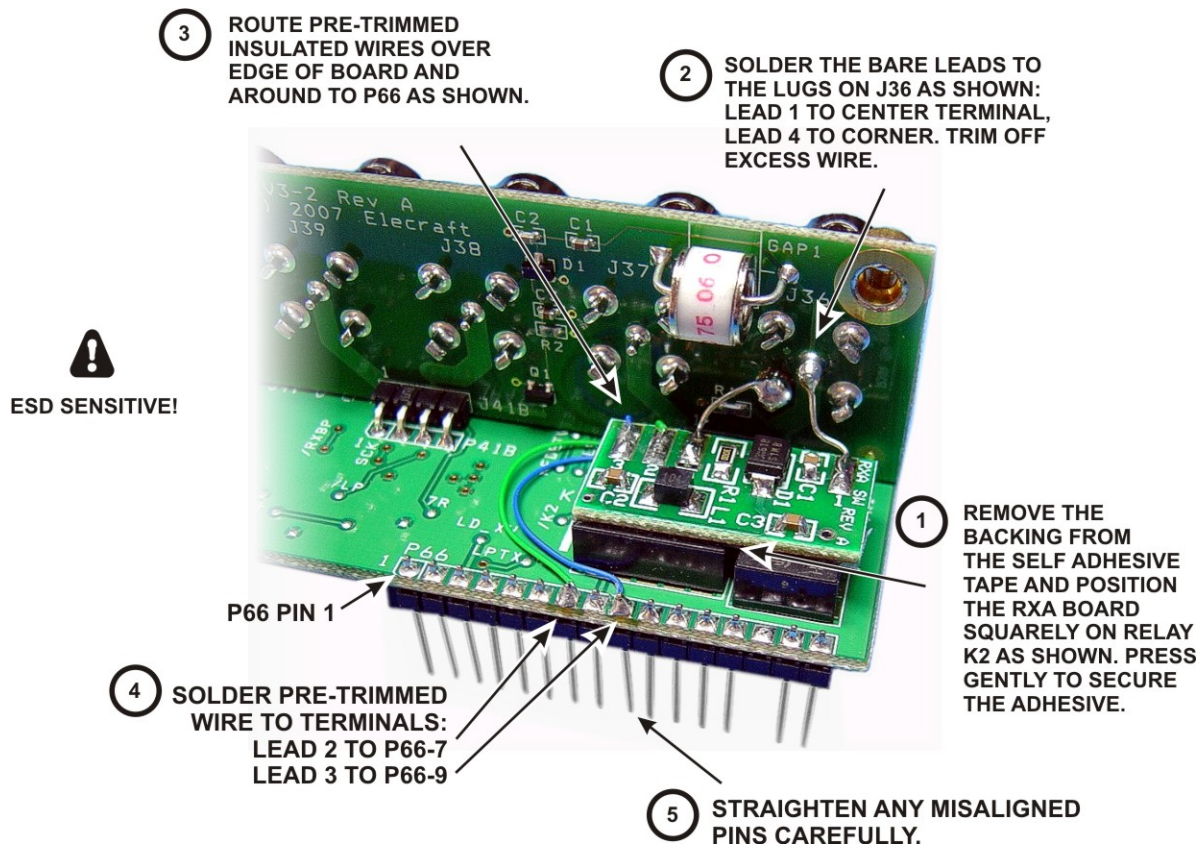

Figure 6. Installing the RXA Board.
- Install the RXA board on the KXV3 board as shown in Figure 6.